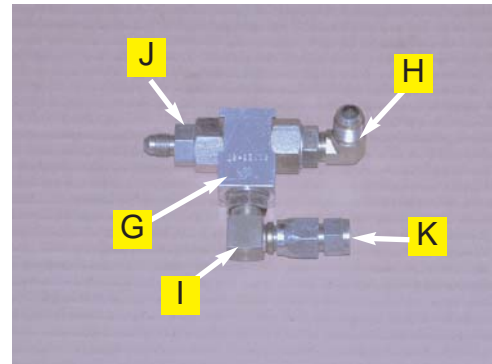

Figure 3c. Assembled Load Sense Shuttle.
- c. Assemble the Load Sense Shuttle (G) with hydraulic adapters (H), (I), (J), and (K). (Figure 3c.)
- d. Connect the center port (K) of the assembled Load Sense Shuttle (G) to the priority divider. (Figure 3c. and 3d.)